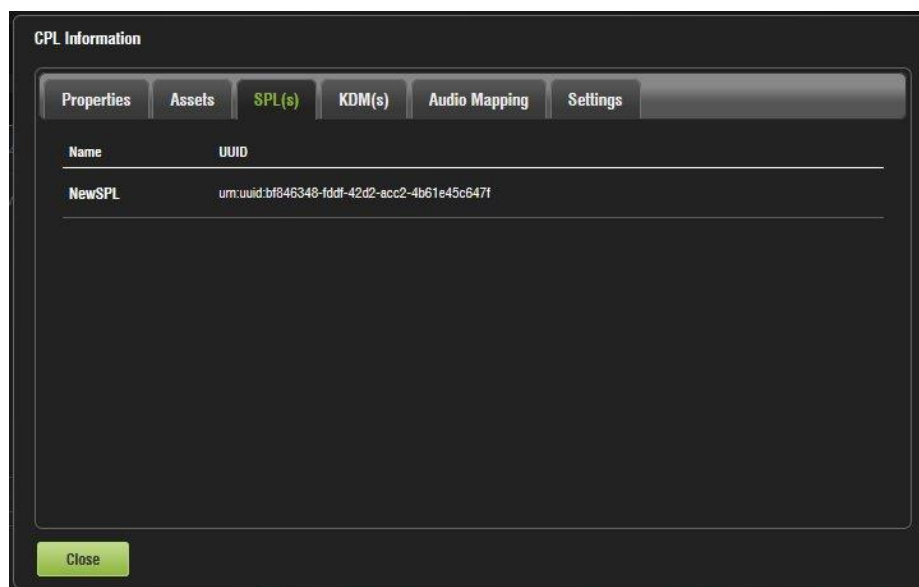

Figure 289: SPL(s) Tab
- The SPL(s) tab displays information related to all of the Show Playlists that contain the selected CPL (Figure 289).